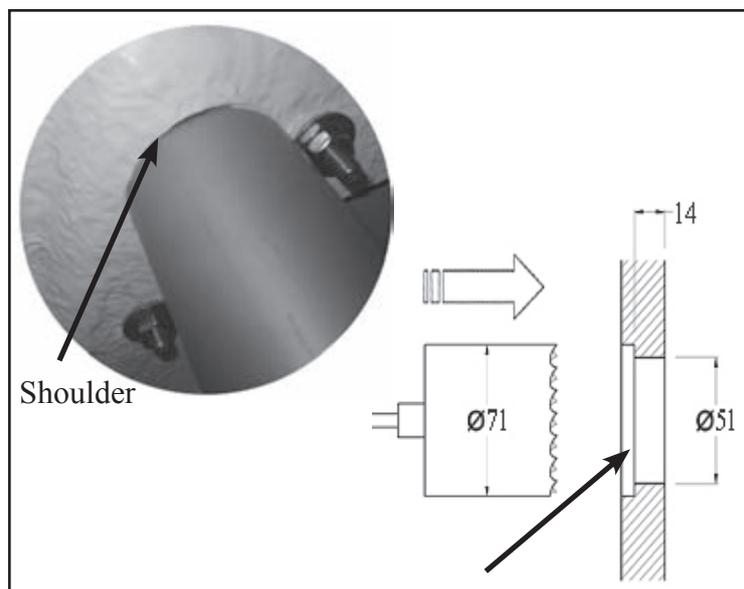

Figure 2.2.3.3-1
1. Make sure that the cylinder goes into place. Check especially the shoulder indicated in figure 2.2.3.3-1, which may touch the stern, causing a mounting fault.
If the stern is more than 14mm thick, an embedding must be made for the cylinder, in which the shoulder in figure 2.2.3.3-1 fits.
2. Spread sealing compound on the collar of the hydraulic cylinder and fit the wedge (figure 2.2.3.3-2) in place. Push the cylinder from inside the boat into the appropriate hole. Spread sealing compound also on the outside, on the threading (figure 2.2.3.3-3, A).
The assistant must move the base plate and the tightening nut (figure 2.2.3.3-3, B) farther on the piston rod before the end of the rod can fit into the rearmost hole.